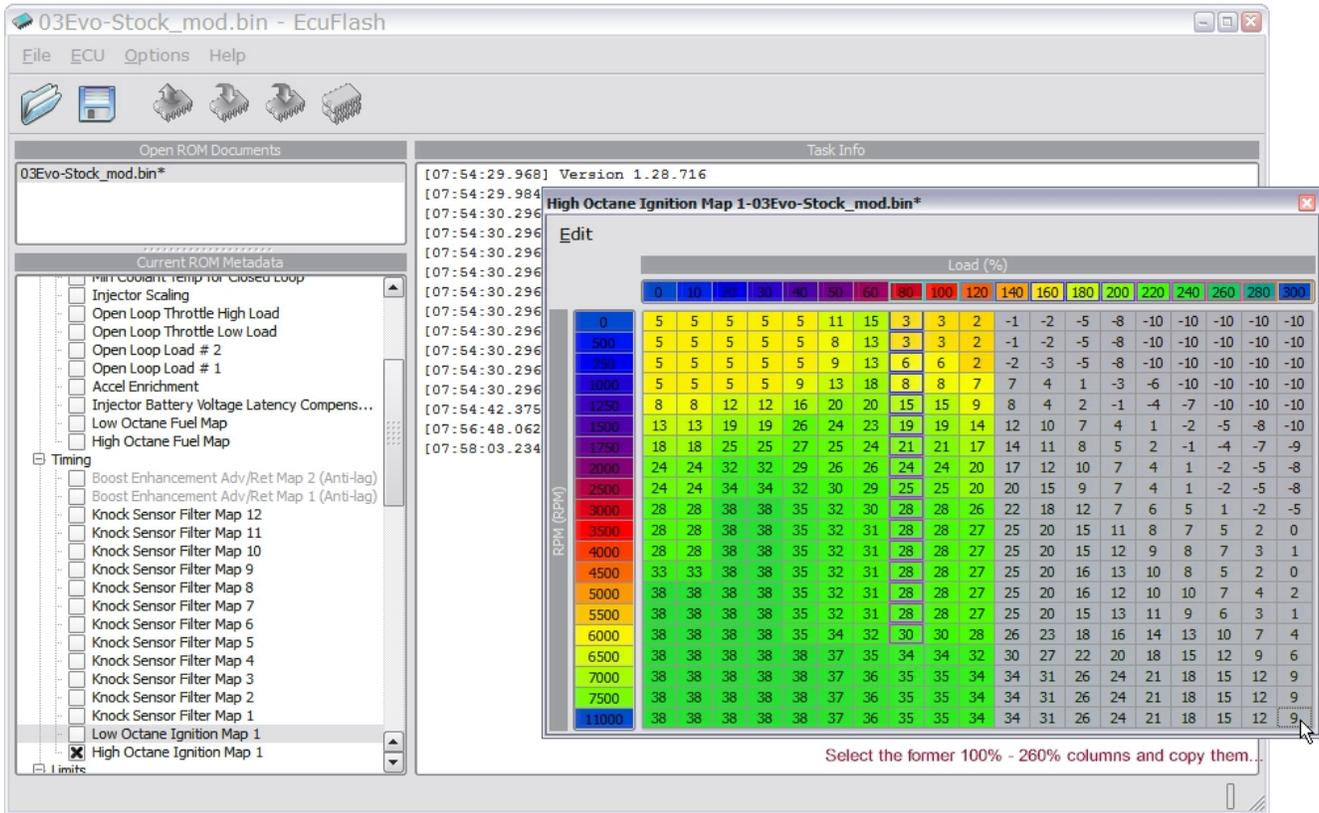

Figure 14, modified 2003 Evolution VIII ECU High Octane Ignition Map, select 140% to 300% columns and copy
- The 140% to 300% columns should now be selected as shown in figure 14.
- The 100% to 260% columns should now be selected as shown in figure 14.